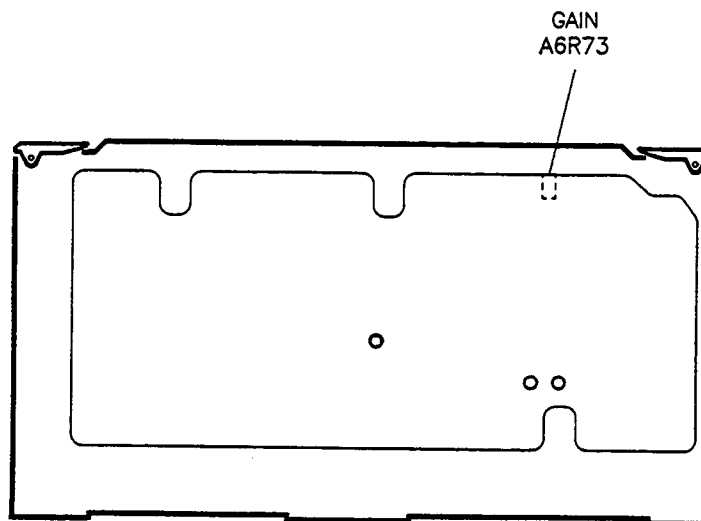

Figure 3-9. IF Gain Adjustment Location
14. Adjust A6R73 (see figure 3-9) to center the "needle" on the display.